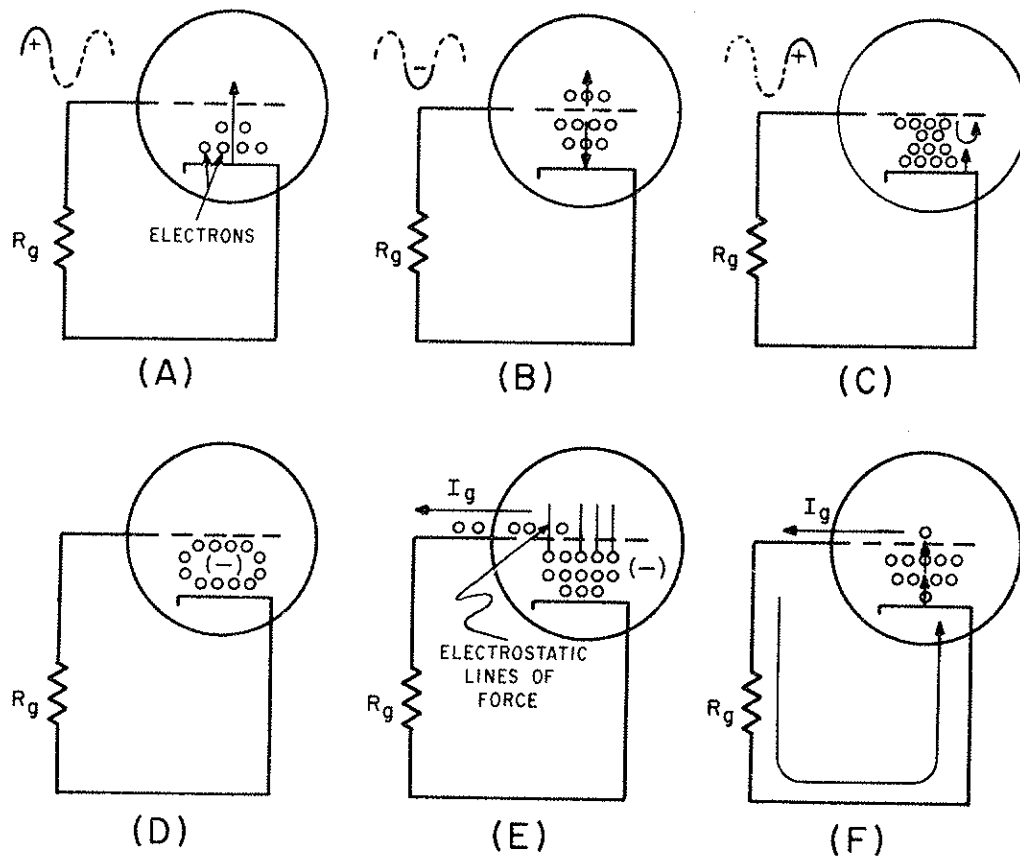

Figure 2-9.—Effect of transit time at ultrahigh frequencies.
The limitation of transit time will be explained using figure 2-9. In view (A), the positive going alternation of a uhf a.c. signal is applied to the grid of a conventional-triode tube. The first positive-going alternation reduces the negative bias on the grid, and electrons start to move toward the grid. Since the input is an ultrahigh frequency signal, the majority of the electrons cannot pass the grid before the input signal progresses to the negative alternation. The electrons that have not yet passed the grid are either stopped or repelled back toward the cathode. This is shown in view (B). Before these electrons can move very far, the second positive alternation reaches the grid, and causes even more electrons to move from the cathode (view C). At the same time, the electrons that were repelled from the grid toward the cathode by the first negative alternation feel the effect of the positive-going grid. These electrons reverse direction and again move toward the grid. Because these electrons had to first reverse direction, they are now moving slower than the electrons that are attracted from the cathode by the second positive alternation. The result is that
grid. The movement of current in this manner is, in effect, a path for current flow from the cathode to the grid. Because current flows between the cathode and grid, the resistance (rgk) between these elements is lowered to the point of a short circuit. The grid, in effect, is short circuited to the cathode and ceases to function, and this, in turn, lowers tube efficiency dramatically. This is shown in view (F) of figure 2-9.